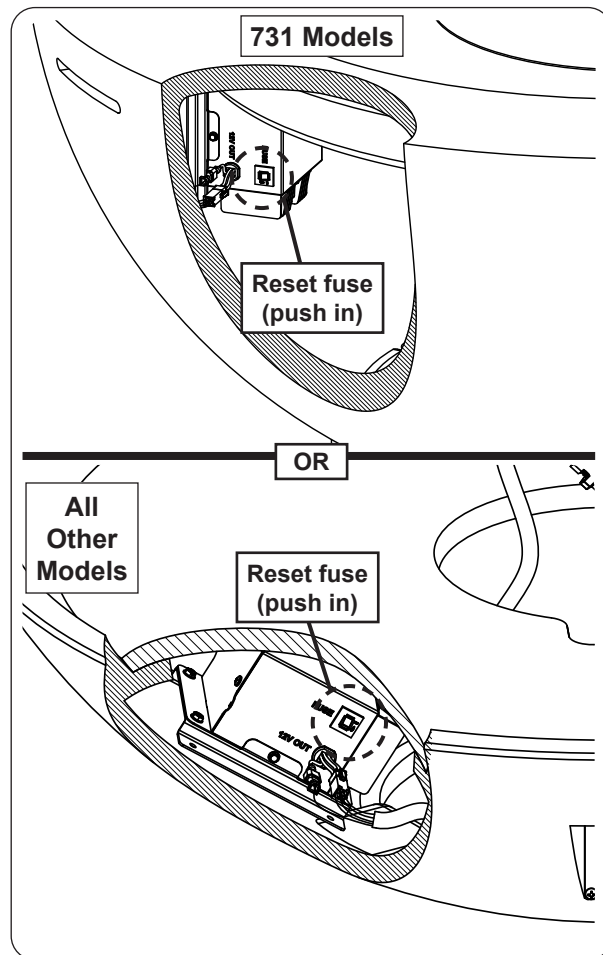

Fig. 49-2 Reset fuse
2. Gain access to the valve box and reset the fuse by pushing it in (see Fig. 49-2).